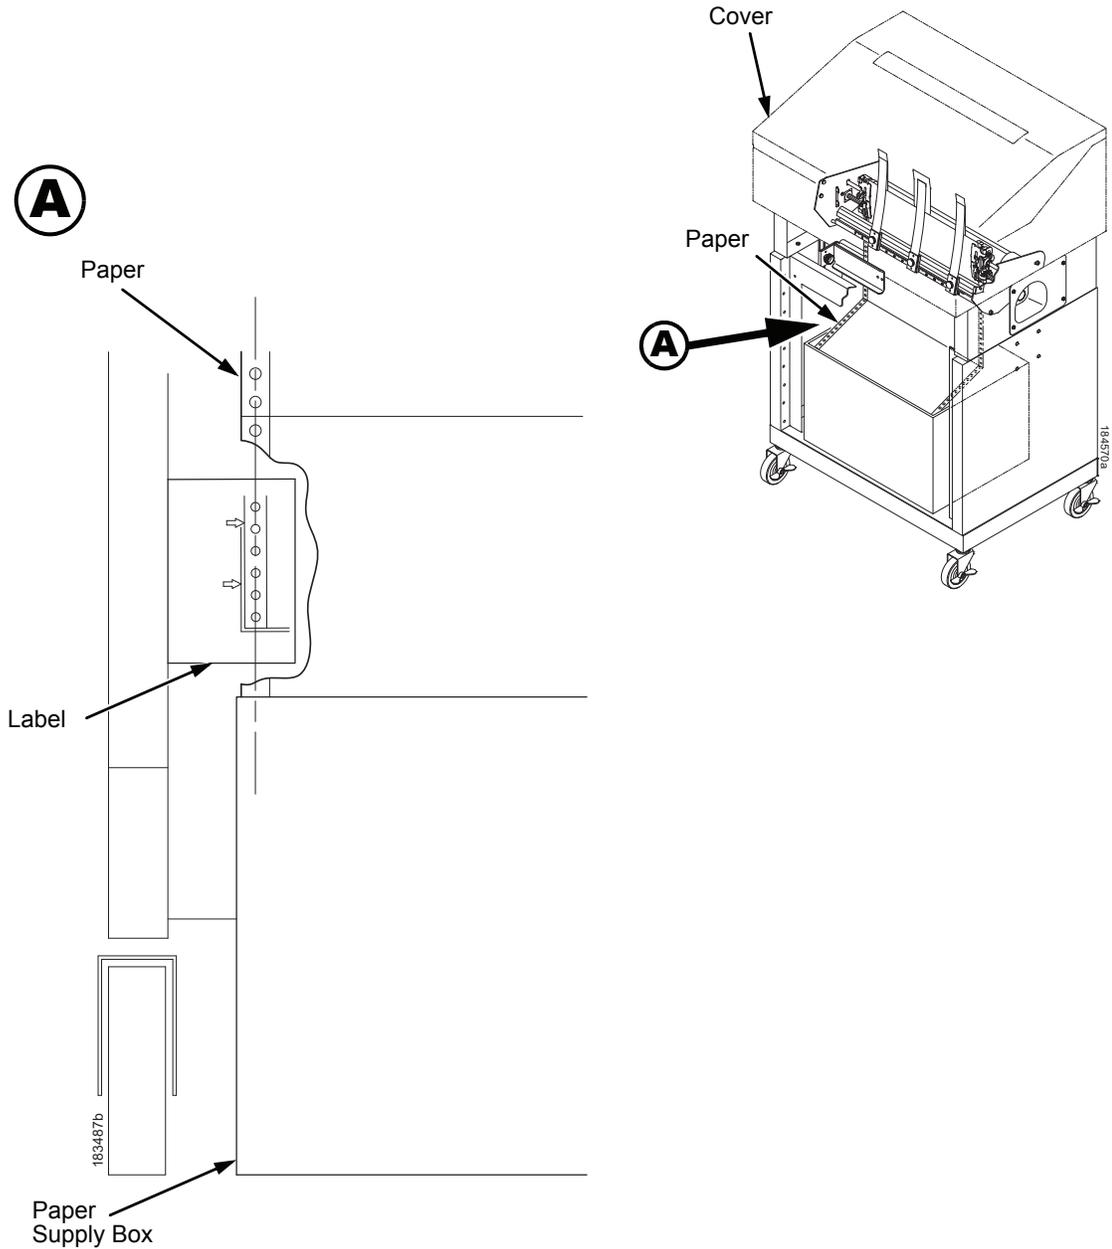

Figure 1. Aligning and Loading Paper onto the Printer
1. Remove the paper from the box and set it down on the lower shelf (See Figure 1.)